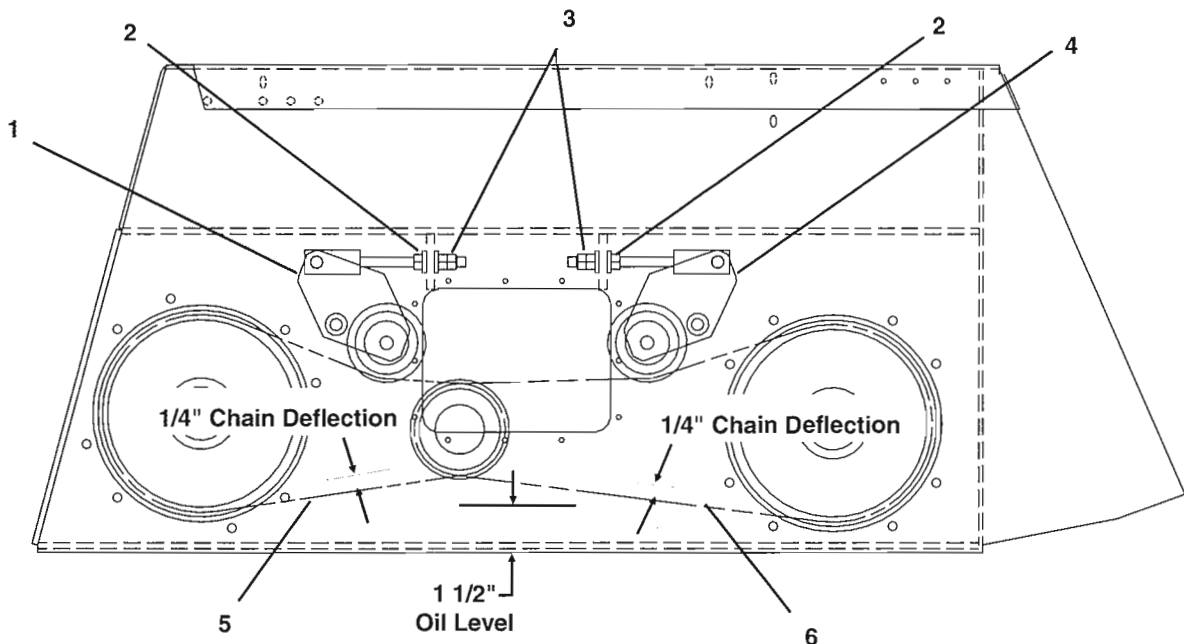

Fig. 31: Adjusting Drive Chain Tension
DRIVE CHAINS (Fig. 31)
5. Correct Chain deflections is 1/4" @ 20 lbs. on the side opposite from the Adjuster - 1/2 way between the Sprockets. (see Fig. 31).
10. If necessary, Replenish the Chaincase oil level to 1 1/2" deep as measured directly below Access opening. (see Fig. 31) Then, reinstall both Chaincase Access Covers using oil resistant RTV or equivalent between the Cover and the Chaincase.